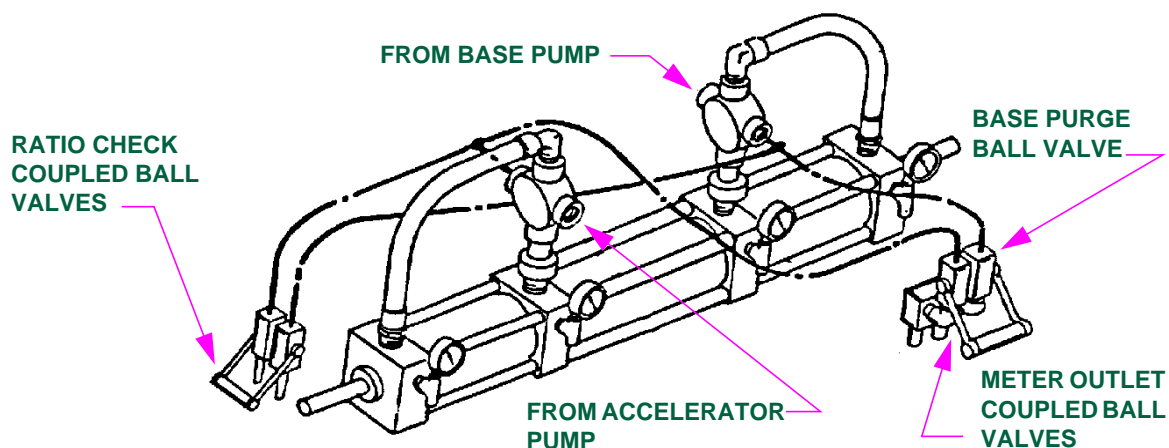

FIGURE 2 - METER OUTLET AND RATIO CHECK COUPLED BALL VALVES
- Step 1. Close the meter outlet coupled ball valves (see Figure 2).